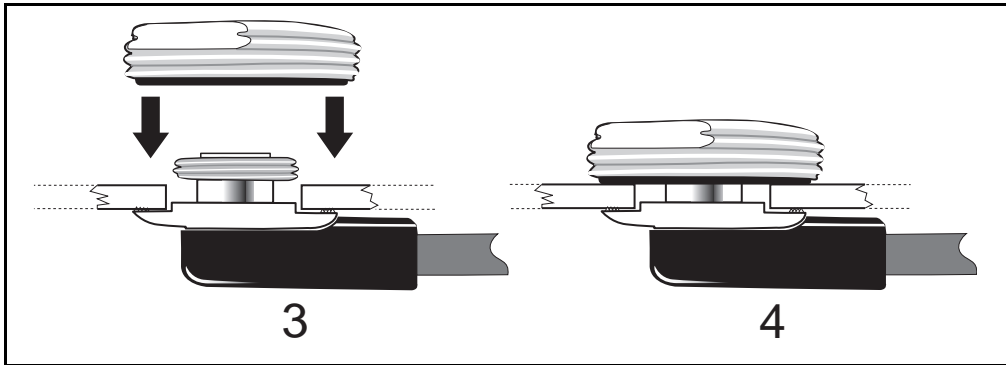

Figure 2.18 Re-installing the brass nut
6. Re-install the brass nut from the exterior of the vehicle (Figure 2.18):